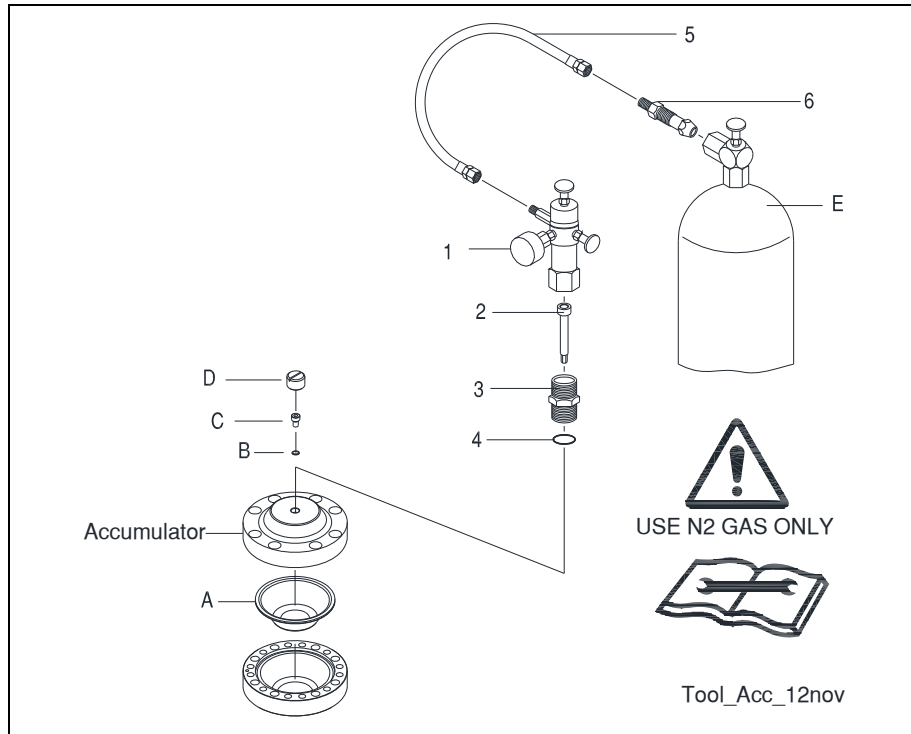

Fig. 6-3 Accumulator N2 Gas Charge Tool
Pressurizing (pre-charging with dry nitrogen gas) the accumulator is accomplished with the charging tool (Fig. 6-3). The table below lists the items included with the charging kit. The kit will service most accumulators found on the AR-series breakers. NOTE: The nitrogen bottle (E) gas is NOT included.